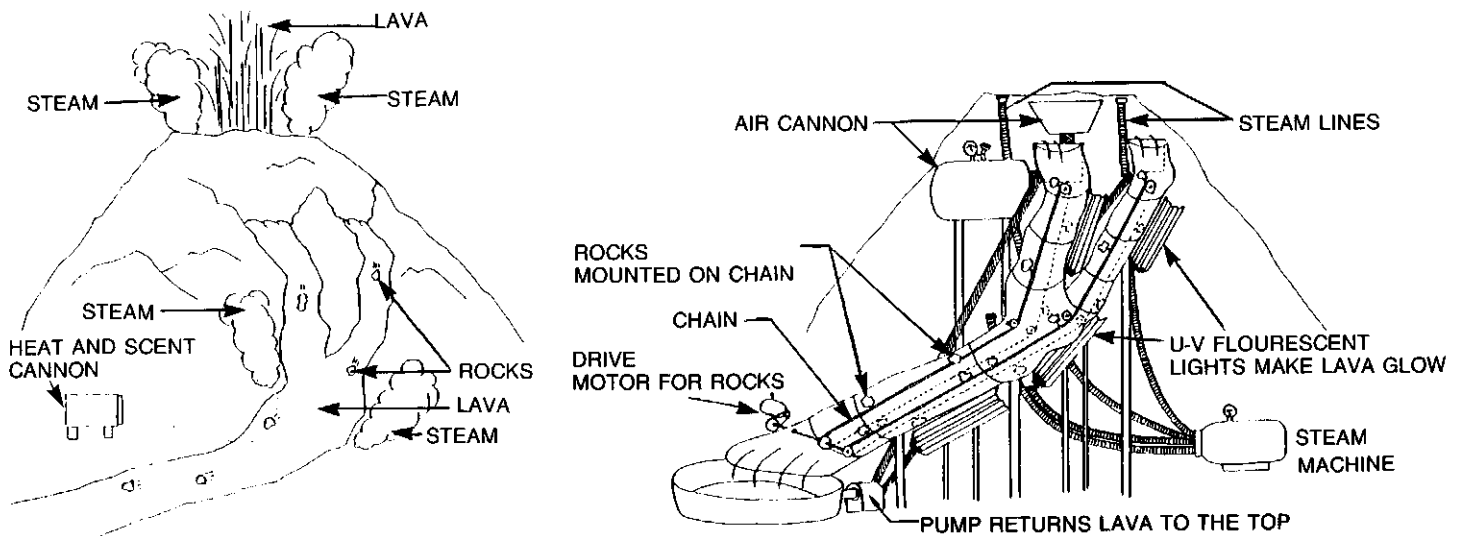

Figure 12-15 Volcano mechanism
This was quite a challenge. It took almost a month to build the set, using a combination of liquid nitrogen, steam, mechanical pumps, plastics, ultraviolet (UV) lights, UV dyes, and a hair gel that was an inert material but when specially treated would maintain the viscosity of lava. To this we added various UV dyes. This concoction was illuminated by UV lights from beneath a clear plastic lava trough. The UV lights emphasized the pigmentation of the lava and made it appear to glow red hot. From both sides of the set, we then shot in steam and strategically spaced injections of liquid nitrogen to create a flow of fast sparking smoke. Scent cannons were added, and hot air blowers provided the sensation of heat when the audience passed by. Pumps were then cued to shoot up a liquid impregnated with UV dyes from the mouth of the volcano. This liquid glowed red hot on anything it landed on or touched (Figure 12-15).